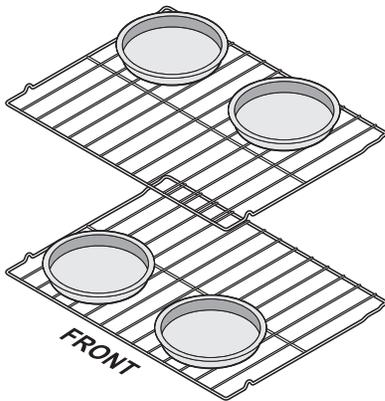

Figure 7: Rack positions two rack baking
- When baking using two oven racks, position cookware as shown in Figure 7.